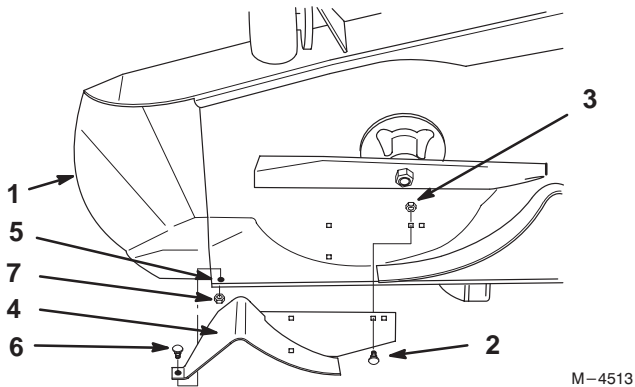

Figure 2
1. Install new baffle into existing wear plate holes (Fig. 2).
2. Use the baffle as a template to drill a hole in side of deck. Mark location and drill a 11/32 in. hole. (Fig. 2).